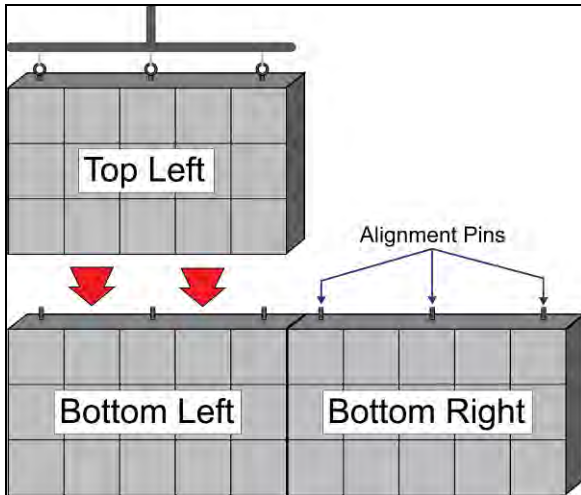

Figure 12: Combining Sections
1. Install the alignment pins in the top edge of the bottom section by screwing them into the holes where the eyebolts were located. Refer to **Figure 12** for an example.
3. Set the top section on top of the bottom section with the aid of the alignment pins. Refer to **Figure 12** for an example.